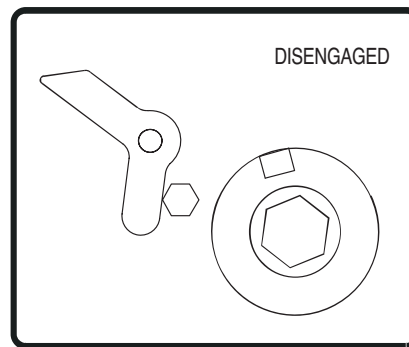

FIGURE 2b
4. Disengage roller stop pawl. (*See Figure 2b.*)